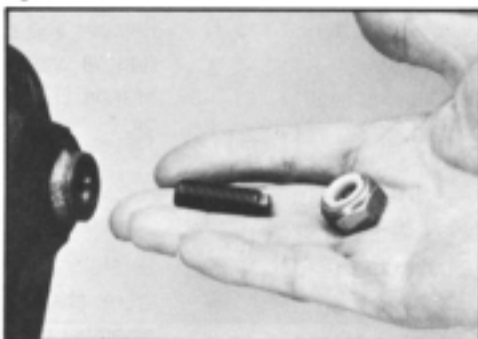

Figure 82
Or remove sealing nut (54A) and adjusting screw (53). Discard sealing nut. 3/4 and 5/16 inch socket required. SEE FIGURE 82.